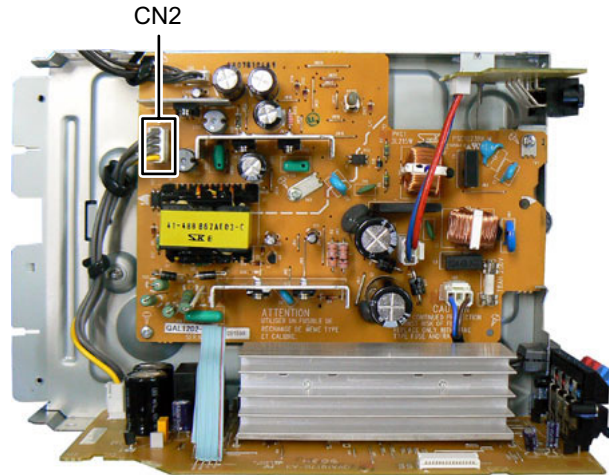

Fig.11
3.1.6 Removing the Amp board (See Fig.11, 12)
- (1) Disconnect the connector wire from Amp board connected to connector **CN2** of the Power board. (See Fig.11)
- (1) Remove the one screw **F** attaching the feed motor assembly.
- (2) Remove the feed motor wires from solder part of spindle motor board.
3.2.4 Removing the spindle motor assembly (See Fig.11)